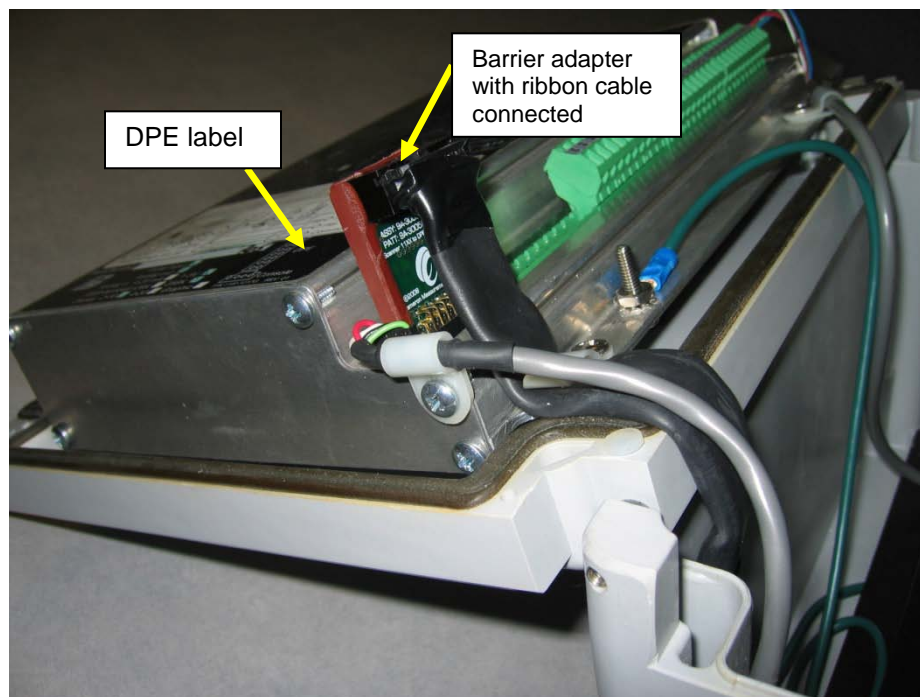

Figure 2.3— Barrier adapter for the DPE+ transducer (required for Class I, Div. 1 installations only)
3. Locate the DPE connector in the bottom right corner of the main board. The “DPE” label on the black decal on the extrusion that covers the main board inside the enclosure shows the correct positioning (Figure 2.3).